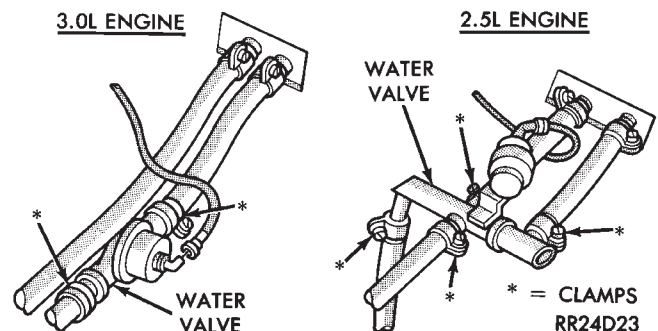

Fig. 6 Water Control Valve
- (1) Drain engine cooling system. Refer to Group 7, Cooling System.
- (2) Locate and loosen clamps at water control valve (Fig. 6).